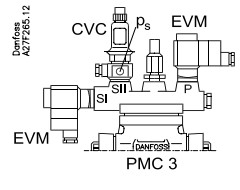

Fig. 11
3. EVM in both SI and P, CVC in SII: Modulating capacity control combined with valve open and valve closed override. See figs. 11 and 12.